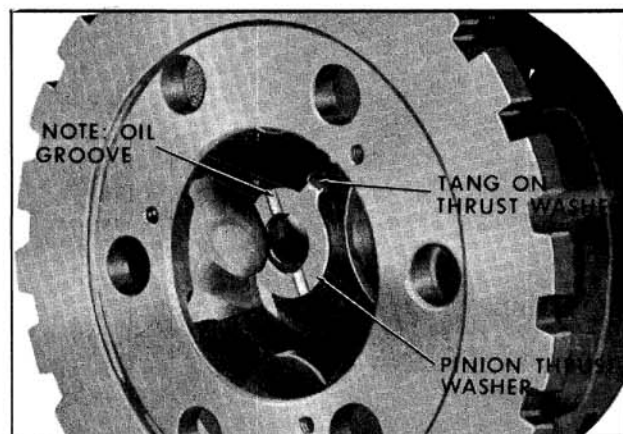

Fig. 6-464 Installing Rear Thrust Washer
2. Install the long planet pinion gears, then install the rear planet pinion thrust washers. Oil groove must be toward pinion gear. (Fig. 6-464)